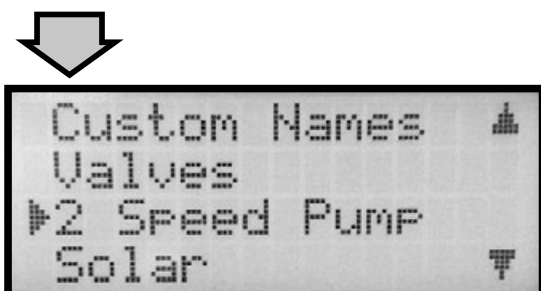

Figure 5.
8. On the control system menu, select the "2-Speed" menu as shown in **Figure 5**.